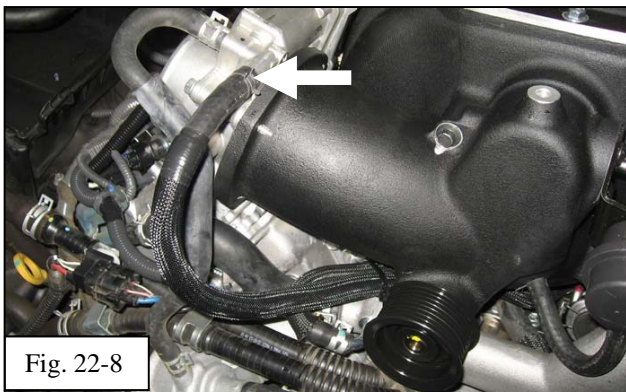

Fig. 22-8
- (n) Install the free end of the 5/16" heater hose onto the front facing barb of the throttle body. Secure it using the remaining spring clamp (Item A20) (Fig. 16-12 & Fig. 22-8).